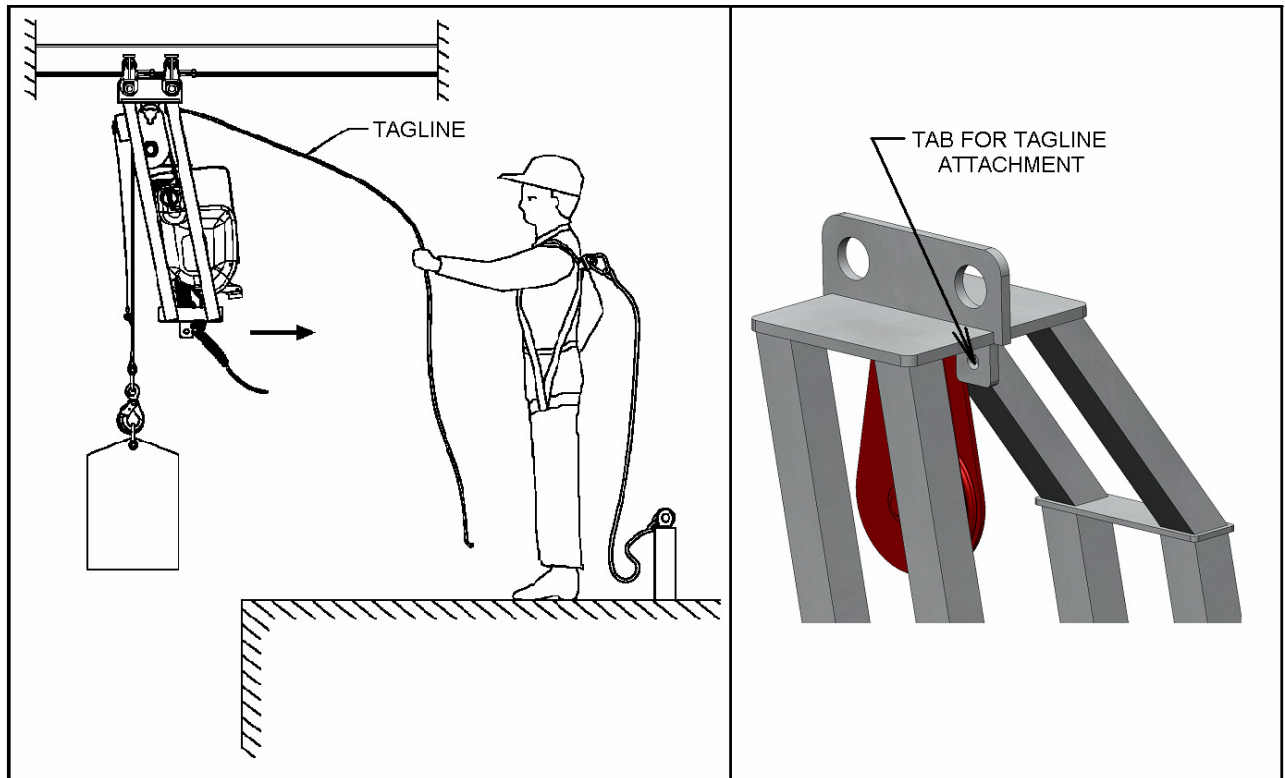

Figure 7.
1. When the material hoist frame is being attached using beam rollers or another approved trolley system, a tagline can be attached to the tagline tab on the material hoist frame. This allows the frame to be pulled and trolley along the beam to move the load. Refer to figure 7.